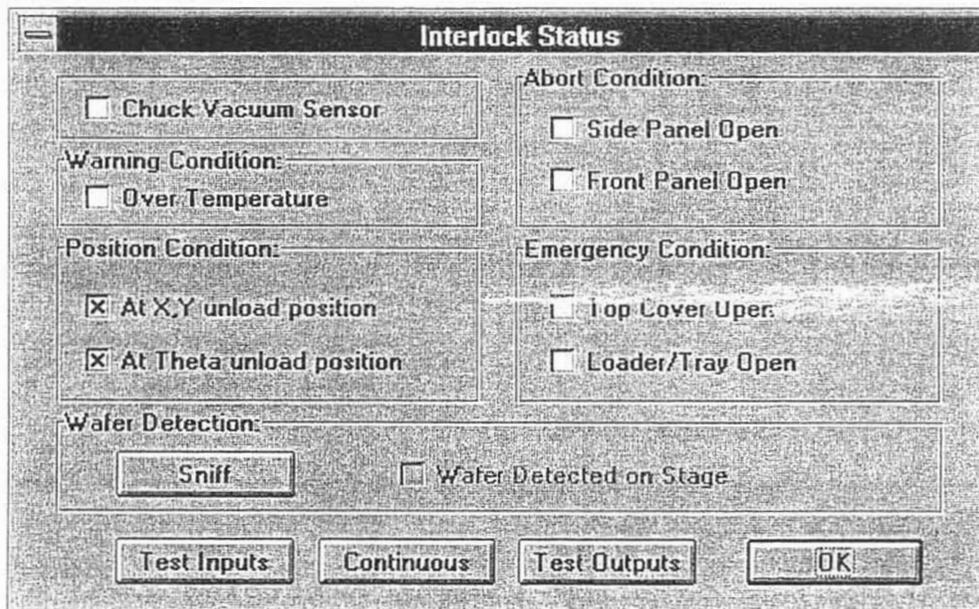

Figure 2.4.2 - Interlock Status Window in DekTak Debug Program
- .9 Load position sensors are located along the Y and Theta stages. These must line-up with blades mounted on the axes. In figure 2.4.2, note the status of the position condition. If either of the status boxes in this section do not have an "x", and the assessment in 2.4.1 indicates the need for adjustment, then adjust the position of the blades/sensor on both unload position sensors to activate status boxes in figure 2.4.2 under " Position Condition".